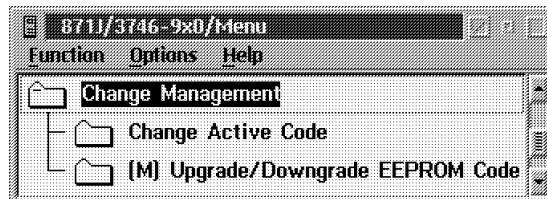
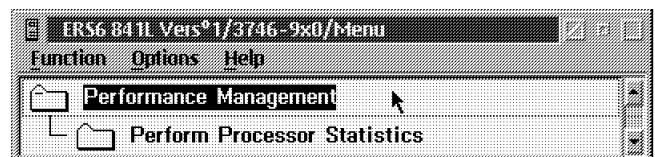

Figure 1-24. 3746-9x0 Change Management Functions
Figure 1-31. 3746-9x0 Performance Management Functions
3. Click **Configuration Management, Problem Management, Operation Management, Change Management, Performance Management, or Functions to Use Under PE Guidance** for details of the functions. See the panels in Figure 1-24 to Figure 1-31 on page 1-13.